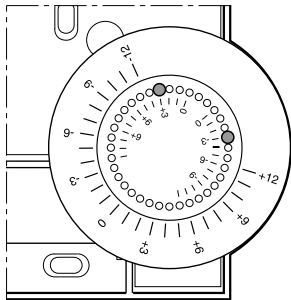

Fig. 6: Limiting the adjustment range
- ▶ Place the two small pins into the holes of the adjustment dials in order to limit the adjustment range (see Fig. 6). Orientate yourself on the basis of the inner scale:
In Fig. 6, the pins are inserted so that the adjustment dial can only be adjusted by  $\pm 3\text{ }^{\circ}\text{C}$  around the zero point.